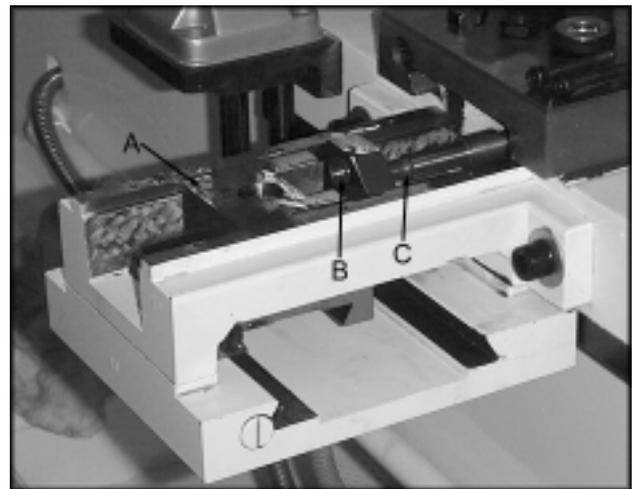

Fig. 3
11. Place the cross slide block (A, Fig. 3) onto the taper slide rest (22).
12. Position the main body so that the hole in the cross slide block (B, Fig. 3) lines up with the cross slide screw (C, Fig. 3).